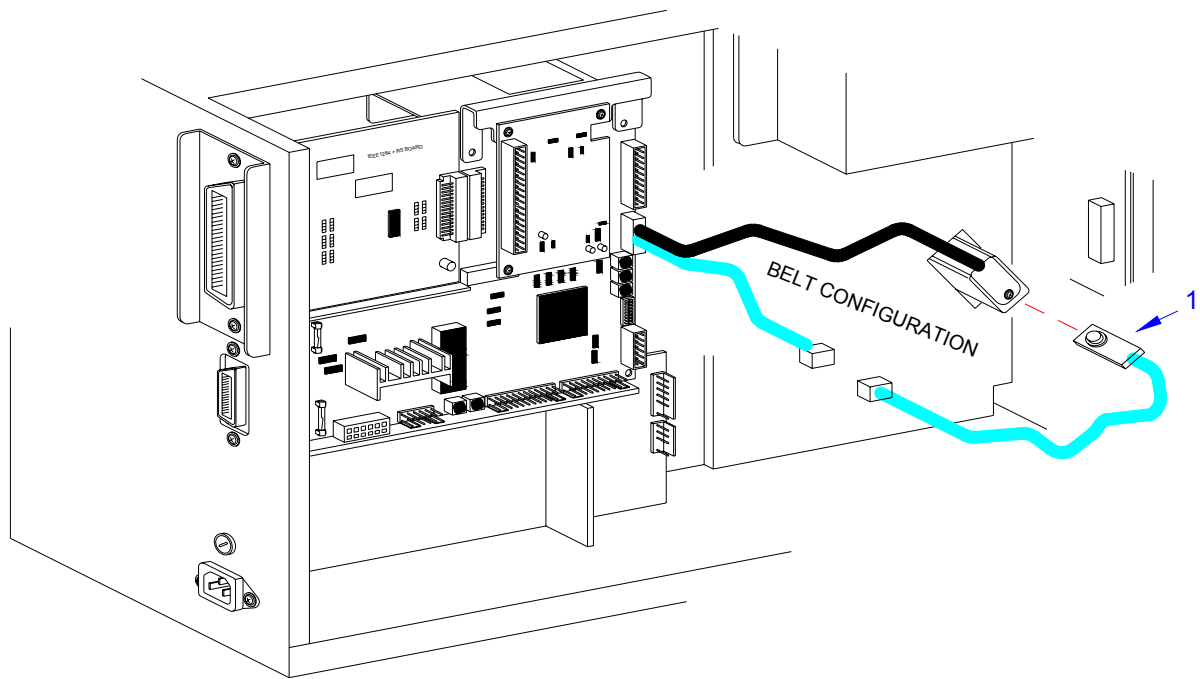

Figure 7-18, Wiring Harness Connection
- 5 Disconnect wiring harness of damaged sensor (1) from the main circuit board.
- 6 Connect the wiring harness of replacement label position sensor (1) to main circuit board. Refer to Figure 7-18 for guidance.